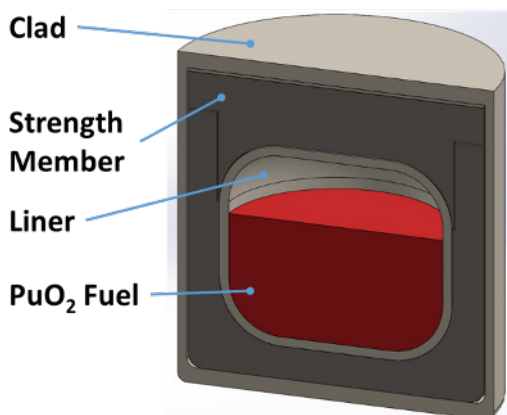

Figure 1: HSFA Assembly Diagram
A RTG uses the decay heat from encapsulated nuclear material to generate electricity. For DP applications, this capsule of nuclear material is referred to as a Heat Source Final Assembly (HSFA). A diagram of the components of a HSFA is shown in Figure 1. Despite the relative simplicity of a HSFA, the manufacture of these components is more challenging than first meets the eye. The complete HSFA is a safety-class nuclear material container. Every aspect of the container design and manufacture is subject to intense scrutiny. The nuclear fuel, encapsulating components, and manufacturing processes must all meet demanding technical specifications. In addition, War Reserve (WR) quality requirements must be followed.
The team works together to create a visual representation of the process, which includes all steps, durations, and inventory. Typically, the VSM will be used to identify VA, NVA, and non-value added but needed (NVAN) steps. VSMs will become very important to the team's decisions during future steps of the DMAIC process. Often, teams make a future state map to depict their post improvement goals. Figure 1 is a VSM completed during a recent AMPP project.